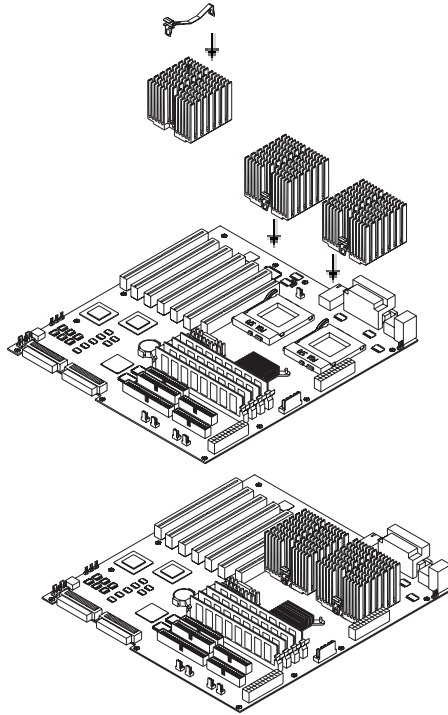

Figure 5-4 Heatsink Installation
- **Overheat:** Indicates an overheat condition in the chassis. This may be caused by cables obstructing the airflow in the system, or the ambient room temperature being too warm. You should also check to make sure that the chassis cover is installed and that all fans are present and operating normally. Make certain that the heat sinks are installed properly (see section 5-5 and figure 5-4) and make certain that the chassis top cover is in place during server operation to assure proper cooling air circulation.
Two passive heatsinks (one for each processor) have been included with your SuperServer 6022C. Secure a heatsink to each processor with a suitable thermal compound to best conduct the heat from the processor to the heatsink. Make sure that you apply the compound evenly and that good contact is made between the CPU chip (the die) and the heatsink. Insufficient contact or improper types of heatsinks and/or thermal compounds can cause the processor to overheat, which may crash the system. See figure 5-4 for heatsink installation diagrams.